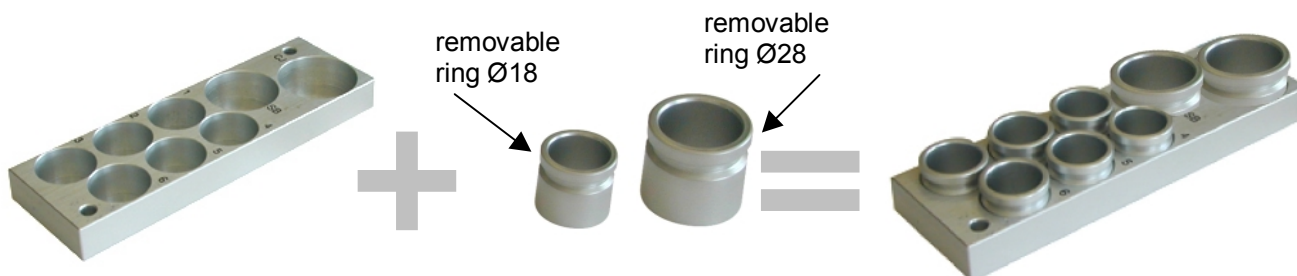

Fig 1- Universal Reagent rack
- Universal Reagent rack ( Fig. 1)